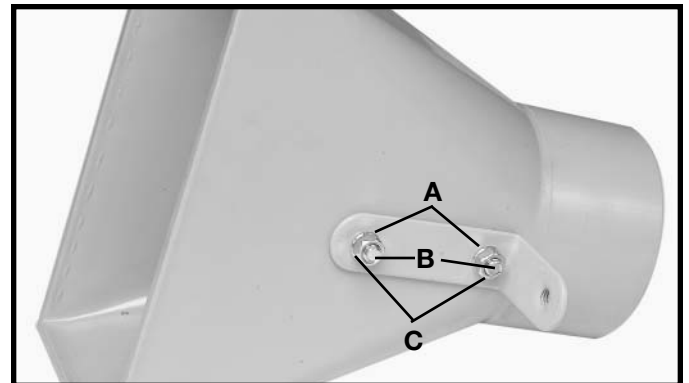

Fig. 12
6. Place a 5/16" lockwasher (A) Fig. 12, onto the bolt (B), and thread a 5/16" hex nut (C) onto the bolt (B) and tighten securely.